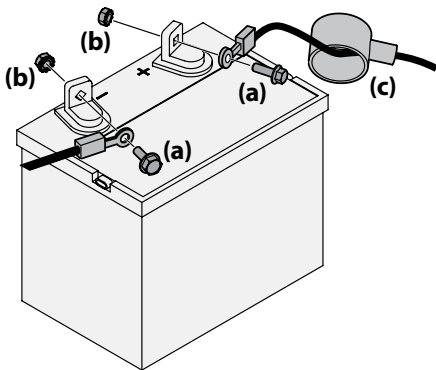

Figure 2-10
1. Remove the plastic cover, if present, from the positive battery terminal and attach the red cable to the positive battery terminal (+) with the bolt (a) and hex nut (b). See Figure 2-10.
2. Remove the plastic cover, if present, from the negative battery terminal and attach the black cable to the negative battery terminal (-) with the bolt (a) and hex nut (b). See Figure 2-10.